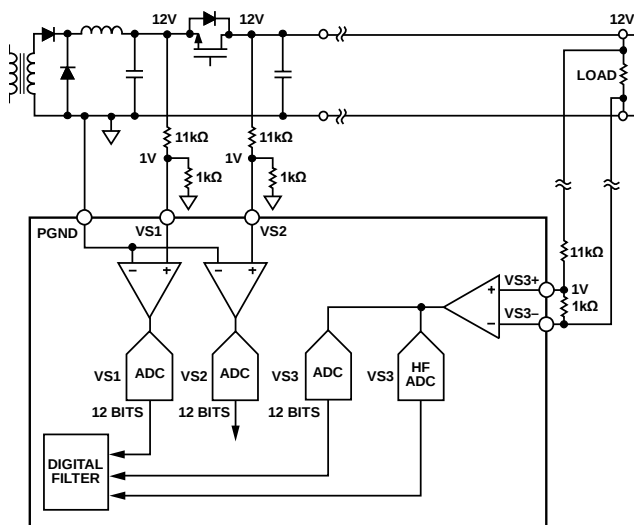

Figure 16. Voltage Sense Configuration
VS1 is used for the monitoring and protection of the power supply voltage at the output of the LC stage, upstream of the OrFET. The VS1 sense point on the power rail needs an external resistor divider to bring the nominal input voltage to 1 V at the VS1 pin (see Figure 16). The resistor divider is necessary because the VS1 ADC input range is 0 V to 1.6 V (12-bit reading). This divided-down signal is internally fed into a low speed Σ - Δ ADC. The output of the VS1 ADC goes to the digital filter and is also updated in Register 0x15 every 10 ms. The VS1 signal is referenced to PGND. When the OrFET is turned off, the power supply is regulated from the VS1 sense point instead of the VS3 $\pm$ sense point.
VS2 is used in conjunction with VS1 to control the OrFET gate drive turn-on. The VS2 sense point on the power rail needs an external resistor divider to bring the nominal common-mode signal to 1 V at the VS2 pin (see Figure 16).
VS3± is used for the monitoring and protection of the remote load voltage. VS3± is a fully differential input that is the main feedback sense point for the power supply control loop. The VS3± sense point on the power rail needs an external resistor divider to bring the nominal common-mode signal to 1 V at the VS3± pins (see Figure 16). The resistor divider is necessary because the VS3 ADC input range is 0 V to 1.6 V. This divided-down signal is internally fed into a high frequency (HF) ADC. The output of the VS3 ADC goes to the digital filter and is also updated in Register 0x17 every 10 ms. The HF ADC is also the high frequency feedback loop for the power supply.